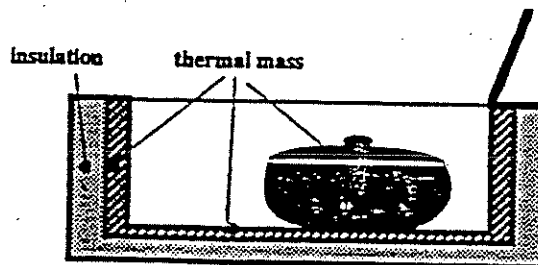

Figure 8. Thermal mass inside of the solar box.
1. Measure the width of the walls of the base and use these measurements to calculate where to make the cuts that form the reflector in Figure 8. Only cut on three sides. The reflector is folded up using the fourth side as a hinge.